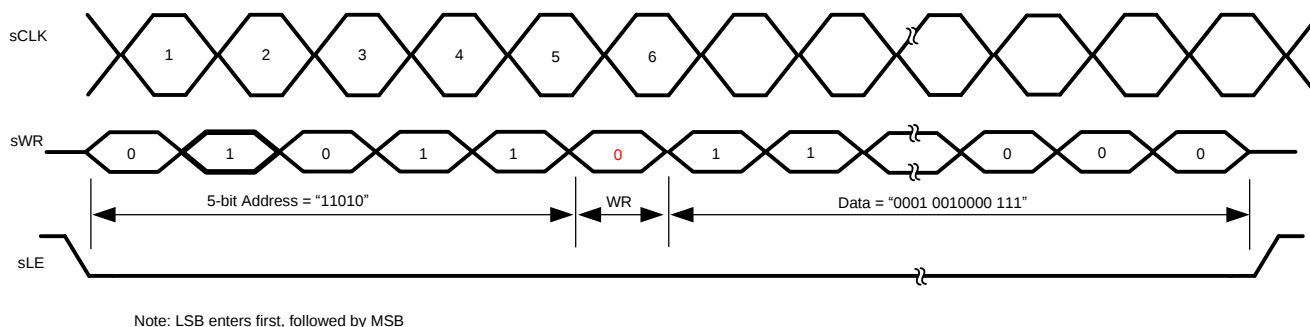

Figure 17. Write Register 1Ah with 14 bit = 0001 0010000 111
- Write the delay profile to each Channel (Registers 00-07h) with the following 22-bit data. The write timing diagram is similar to that shown in Figure 17, except for the register addresses and the 22-bit data depths.
- Write the pulse pattern to each Channel (Registers 08h to 0Fh for P and 10h to 17h for N) with the following 64 bits of data (shown in hexadecimal format). The write timing diagram is similar to Figure 17 except for the register addresses and the 64-bit data depths.